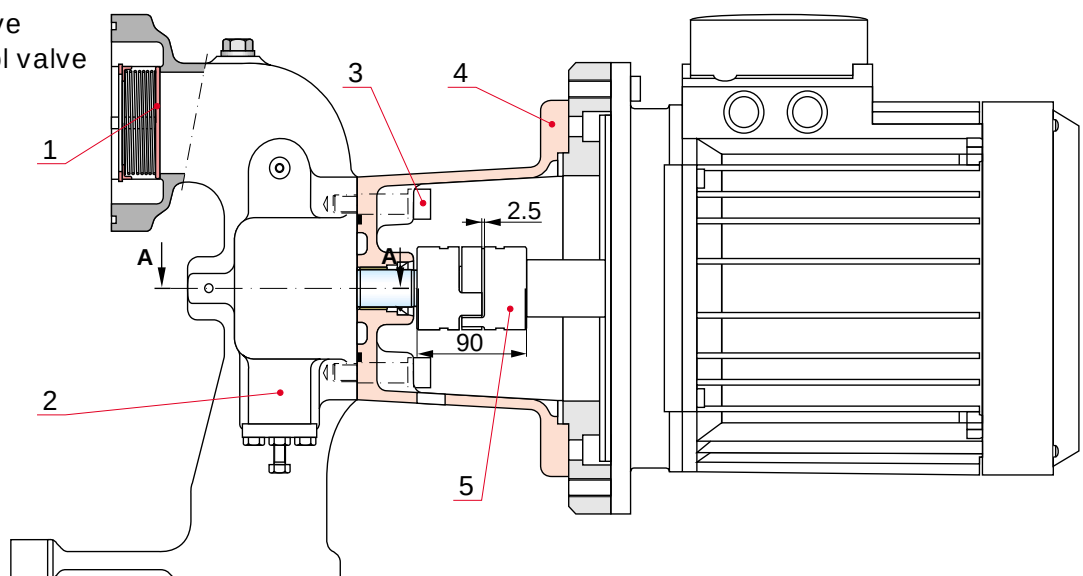

Fig 18-8
The pump is of the gear type, driven by an electric motor. The pump is provided with an adjustable pressure control valve (2), Fig 18-8. The pressure should be limited to the max. value, about 2 bar, by unscrewing the adjusting screw to the end position in order to prevent the electric motor from being overloaded when running with very cold oil.
- 2** Mount the axial seal (11) in the cover and lubricate with grease.
- 3** Mount the bracket (4) Check that the O-ring in the groove is intact and in position.
- 4** Tighten the screws (3) to torque according to chapter 07.
- 7** Check the distance between coupling halves and adjust if necessary, see Fig 18-8.